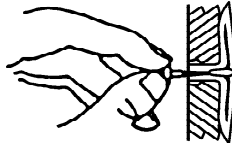

Figure 10 - Popping Open Anchor Wing For Thin Walls
4. For thin walls (1/2" or less), insert red key into wall anchor. Push red key to "pop" open anchor wings. (see Figure 10).